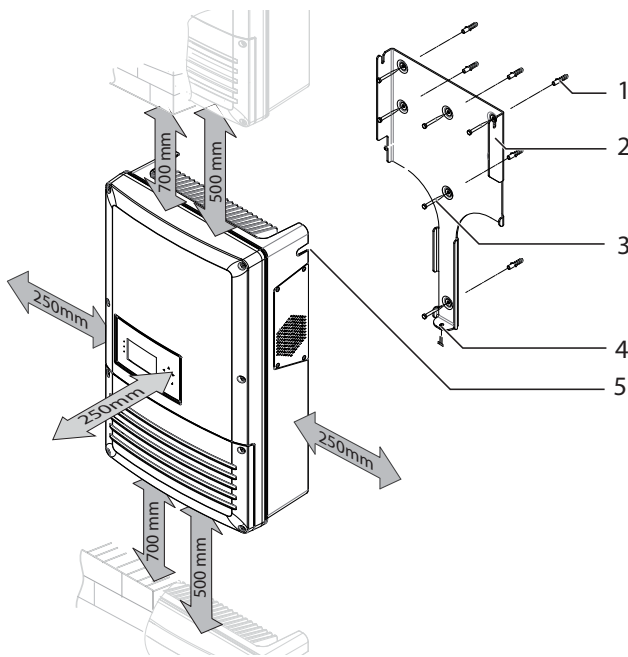

Figure 10: Minimum clearances/mounting plate
- Minimum clearances to be observed during assembly: see Figure 10 on page 15.